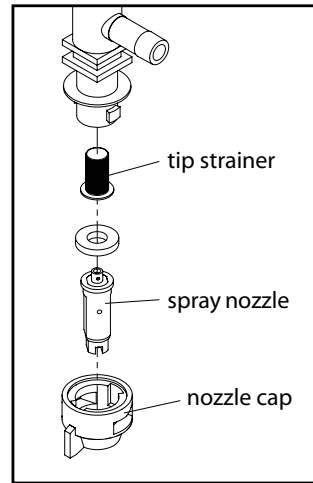

Figure 2: Nozzle breakdown
4. Tip strainers should be taken out and rinsed on a regular basis. Tip strainers are the small screens located behind each spray nozzle on the boom (Figure 2).